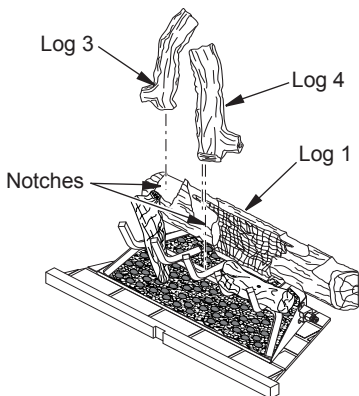
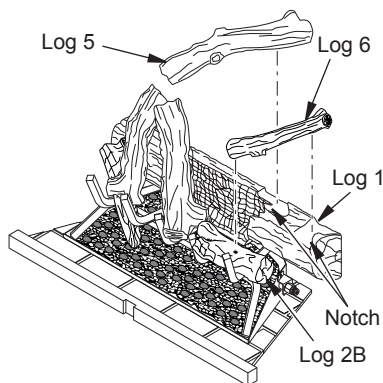
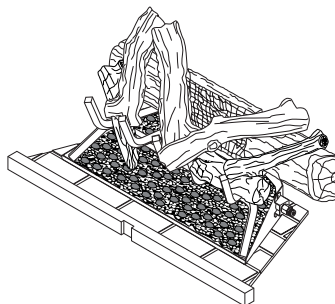

Figure 28 - Installing Logs 3 and 4
Figure 29 - Installing Logs 5 and 6
Figure 30 - Logs Installed for M42E, M42EP, VME42E and VM42EP Models
3. Place log 3 into notch on top left of log 1, resting lower end on left two grate fingers (see Figure 28).
4. Place upper end of log 4 into notch on log 1 as shown in Figure 28. Rest lower end of log 4 on the middle grate finger as shown in Figure 29.
5. Place upper end of log 5 into notch on top inner right of log 1 (see Figure 29). Rest lower end of log 5 on middle grate finger as shown in Figure 30.
6. Place log 6 into notch on top right of log 1 (see Figure 29). Rest lower end of log 6 on top of log 2B (see Figure 30).